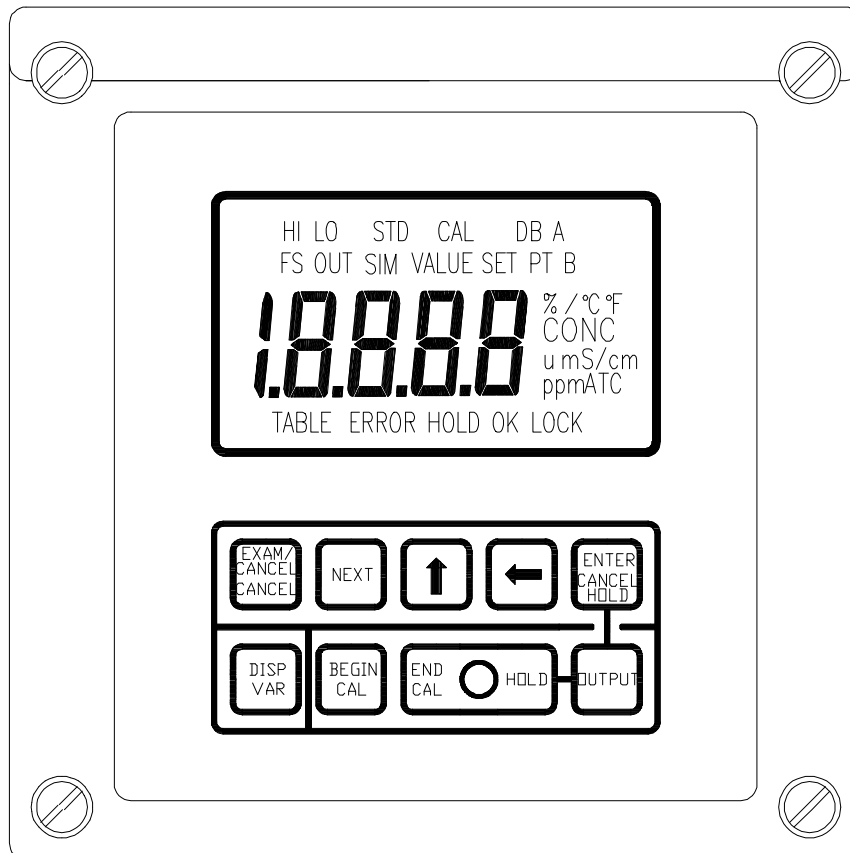
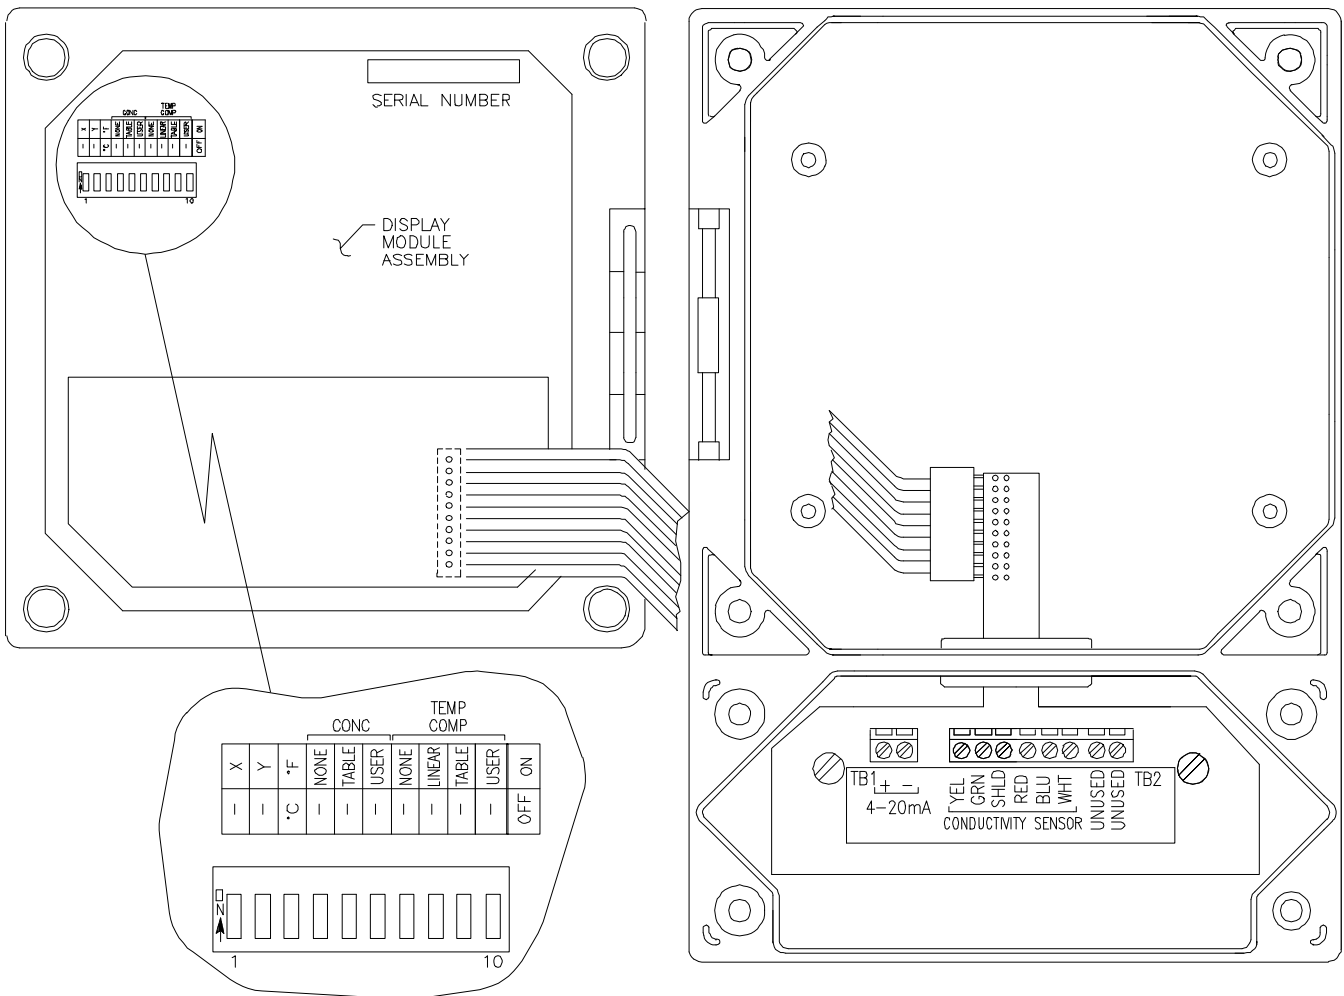

FIGURE 3-1 Keypad Switches
FIGURE 3-2 Controls on Backside of Display Module Assembly and Electrical Hookup Details
The frequently used keypad switches (Figure 3-1) can be used without opening the instrument enclosure. One ten-position slide switch, used for selecting instrument response time, solution concentration tables and temperature compensation method is located on the backside of the display module assembly in the upper left corner (Figure 3-2). Access this switch by loosening the upper four screw-type fasteners and opening the enclosure door. The complete door/display module assembly can be easily removed from the enclosure by unsnapping it from its hinge and disconnecting the ribbon-cable connector.
1. **EXAM/CANCEL** key (Figure 3-1)
2. **NEXT** key (Figure 3-1)
3. **↑** key (Figure 3-1)
4. ⇐ key (Figure 3-1)
5. **ENTER/CANCEL HOLD** key (Figure 3-1)
B. Cancels output hold feature when pressed together with **OUTPUT** key (item 9).
6. **DISP VAR** key (Figure 3-1)
NOTE: As a display check, all indicators light up (as shown in Figure 3-1) when 4-20 mA output variable is displayed and \leftarrow key is pressed.
7. **BEGIN CAL** key (Figure 3-1)
8. **END CAL/HOLD** recessed button (Figure 3-1)
B. Activates output hold feature when pressed together with **OUTPUT** key (item 9).
9. **OUTPUT** key (Figure 3-1)
10. **X** and **Y** switches (No. 1 and No. 2 respectively, Figure 3-2)
11. **°C/°F** switch (No. 3, Figure 3-2)
12. **CONC NONE** switch (No. 4, Figure 3-2)
13. CONC TABLE switch (No. 5, Figure 3-2)
14. CONC USER switch (No. 6, Figure 3-2)
15. TEMP COMP NONE switch (No. 7, Figure 3-2)
16. TEMP COMP LINEAR switch (No. 8, Figure 3-2)
17. TEMP COMP TABLE switch (No. 9, Figure 3-2)
18. TEMP COMP USER switch (No. 10, Figure 3-2)
Locate the group of ten switches on backside of display module assembly (Figure 3-2) and place **CONC NONE** switch in **ON** (up) position.
8. Locate the group of ten switches on backside of display module assembly (Figure 3-2) and place °C/°F switch in the **ON** (up) position for temperature values to be displayed in °F. Place in the **OFF** (down) position for °C readout.
Temperature compensation may be purposely bypassed to provide raw, uncompensated conductivity readings (typically used when uncompensated readings are desired). Locate the group of ten switches on the backside of display module assembly (Figure 3-2) and place **TEMP COMP**